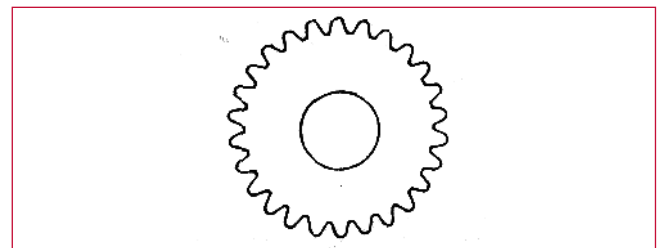

Figure 10, Stacking (Loose)
3. The outside diameter of the workpiece must have a shape that allows a torque absorption fixture to easily engage, such as gear teeth (see Figure 10).